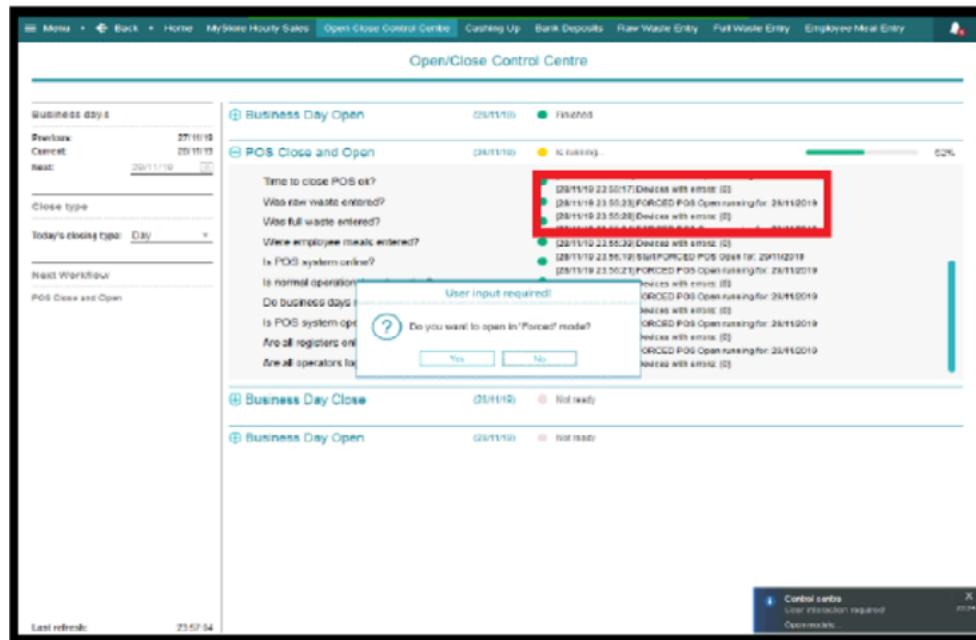

Figure 17: Open in “Force” Mode prompt
If the OCCC prompts the Restaurant to “Open in Forced Mode” (see figure 17) due to the Close/Open process being stuck at 52%, Device with error (0), the Waystation business day should be checked for all devices.